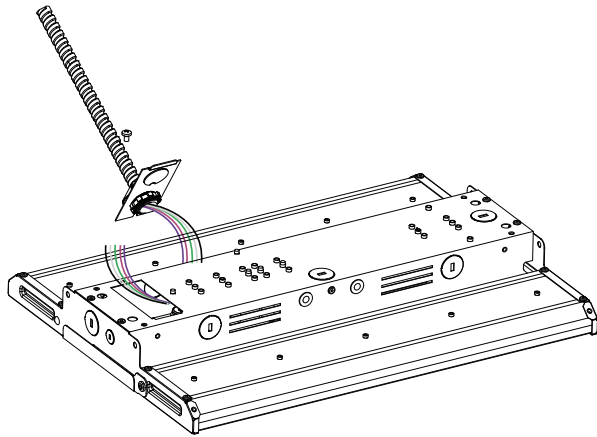

Figure 10
- Connect the LED high bay wiring to line wire, black to black, white to white, and green to ground wire; secure each connection with wire nuts. Purple & pink leads inside the driver compartment are 0-10V (low voltage) dimming leads, connect to incoming dimming low voltage wiring when controlling luminaire light levels via external signal. (Figure 10)